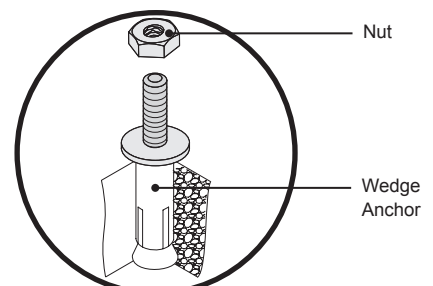

Figure 22. Wedge Anchor Installation
- 1 Insert the wedge anchor into the drilled hole. If necessary, use a hammer and gently tap the wedge anchor into place (Figure 22).